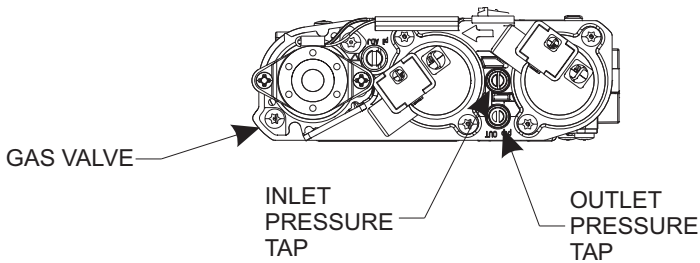

Figure 17
**NOTICE:** The gas control is equipped with a captured screw type pressure test point, therefore it is not necessary to provide a 1/8 inch test point up stream of the control. **See Figure 17.** When using copper or flex connector use only approved fittings. The fireplace and its individual shut-off valve must be disconnected from supply piping system during any pressure testing of that system at test pressures in excess of 1/2 psig (3.5 kPa).